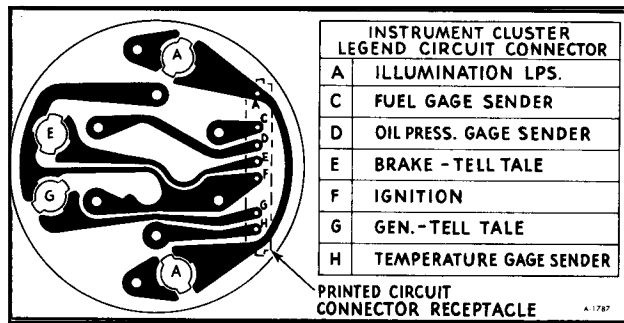

Figure 16—Gauge Cluster Printed Circuit
The fuel, engine temperature and oil pressure gauges are located in the gauge cluster. Connection is made to this gauge by a (7) pin connector which feeds a printed circuit shown in Figure 16.
a. If gauge does not register with ignition on: this may be caused by a break in the circuit between the gauge and the switch through the printed circuit or a short between the connector lead and the ground (See figure 16).
An electric oil pressure gauge is used on all vehicles covered in this manual. A variable resistance sending unit is connected to an engine oil pressure gallery to vary the amount of resistance to ground with changes in engine oil pressure. Current is fed through the printed circuit on the back of the gauge (figure 16) from the wiring harness.